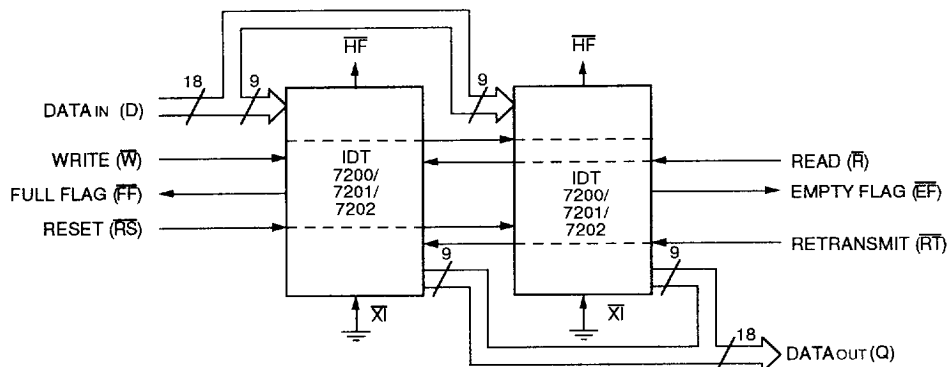

Figure 13. Block Diagram of 256/512/1024 x 18 FIFO Memory Used in Width Expansion Mode
Word width may be increased simply by connecting the corresponding input control signals of multiple devices. Status flags (\overline{EF} , \overline{FF} and \overline{HF}) can be detected from any one device. Figure 13 demonstrates an 18-bit word width by using two IDT7200/7201/7202s. Any word width can be attained by adding additional IDT7200/7201/7202s (Figure 13).
2. For flag detection see section on Width Expansion and Figure 13